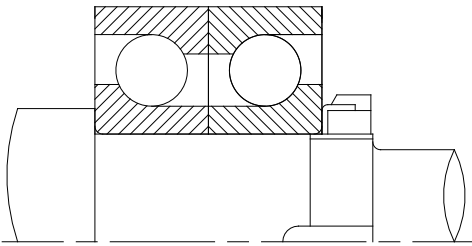

Figure 6.6 - Oil Cascade and Oil Mist Lubrication -
- e) Install the lock washer and locknut as per figure 6.6 (oil cascade and oil mist lubrication).